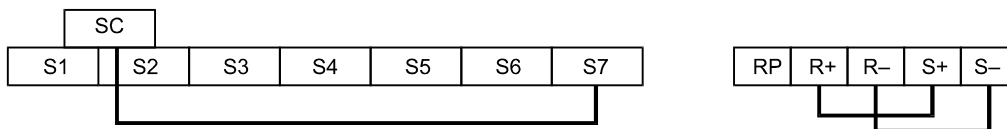

Fig 6.47 Communication Terminals Wiring for Self-Diagnosis
3. Perform the wiring according to Fig 6.47.